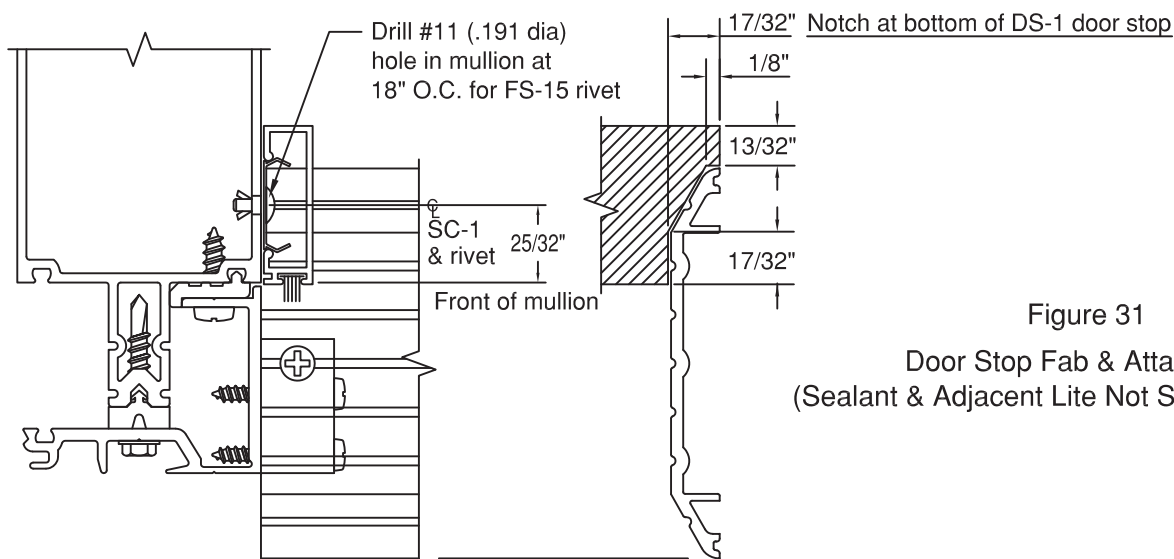

Figure 31
C.3.6 Drill #11, .191 diameter holes in curtain wall mullions for FS-15 rivets. Install door stops onto mullion with SC-1 clips at 18" O.C. **SEE FIGURE 31.** Vertical stops run through.